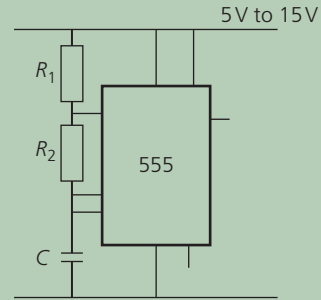

Figure Q10
6. The circuit in Figure Q10 shows a 555 timer configured as an astable, with  $R_1 = 1\text{ k}\Omega$ ,  $R_2 = 2\text{ k}\Omega$  and  $C = 10\text{ }\mu\text{F}$ .